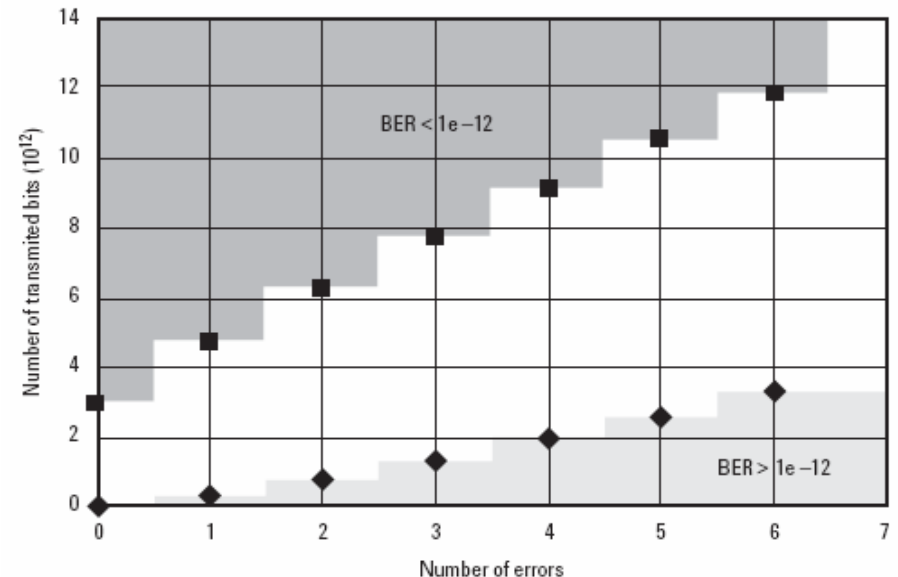

Figure 1: The 95% confidence level boundaries for upper (dark grey) and lower (light grey) limits on a BER of 1e⁻¹²
- Search for target BER proceeds according to decision criteria as of table 2 / figure 1: while receiving bits and errors constantly monitoring if accumulated measurement depth already sufficient to decide with given confidence level that actual BER is above or below target BER and so the next point in time can be measured or if more bits need to be accumulated
- only three different vertical “levels” according to fig. 1